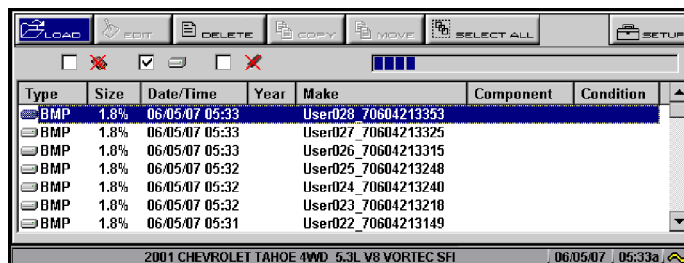

Figure 5-69 Load DataScreen
4. Select **LOAD** on the toolbar to open the file (Figure 5-69).